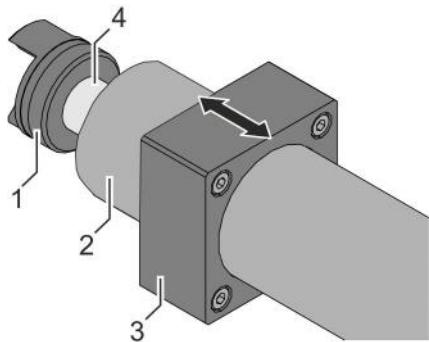

Fig. 26: Assembling the synchronisation shaft
6. ➤ Loosely slide the following components onto the steel tube (Fig. 26/4) one after the other:
- 2 clamping hubs (Fig. 26/1)
- Protective tube (Fig. 26/2)
- 2 adapter flanges (Fig. 26/3)
7. ➤ Position the steel tube (Fig. 26/4) with the loose components between the screw-in hubs of both linear units.